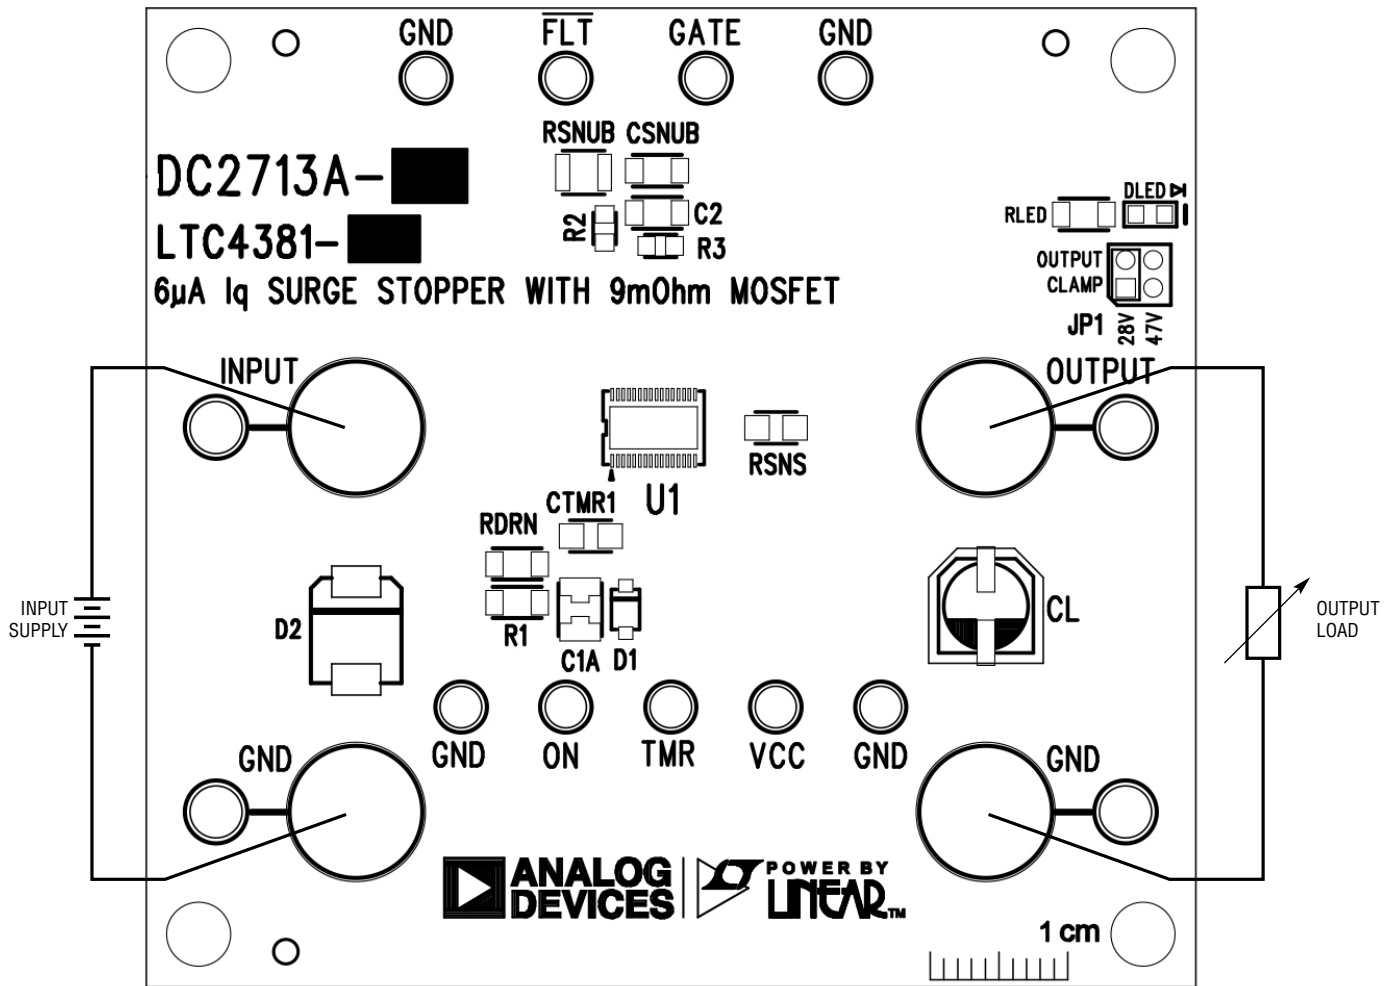

Figure 1. Measurement Equipment Setup
2. Connect a power supply to INPUT (through a diode for Step 4) and a load to OUTPUT (initially off) as shown in Figure 1. The small turrets do not need any connections. Applying input power, above 2.5V, turns on the circuit as indicated by the green LED at the output. At rated load, the input to output voltage drop should be around 50mV for DC2713-A/DC2713A-B and 200mV for DC2713A-C/DC2713A-D. For DC2713A-C/DC2713A-D, the installed 22nF TMR capacitor starts up a 47 μ F load capacitor (including installed CL).